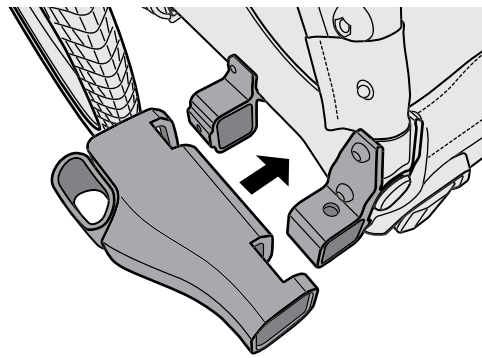

Figure 8
1. Position the Quick Receiver as shown (Figure 8).
2. Slide the Quick Receiver over the aluminum receiver mounts until fully seated (Figure 8).